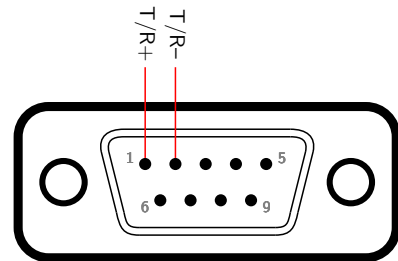
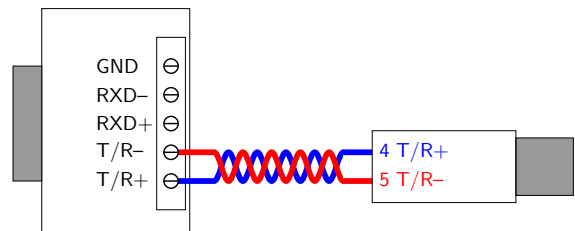

Figure 2.3: DB-9 female connector (solder side).2
Figure 2.4: DB-9 adaptor to DIN-6 wiring.2
1. Solder the pins on a female DB-9 connector as shown in Figure 2.3. Note that the pin numbers shown in the diagram are for the solder side of the connector. Alternatively, use a DB-9 adaptor with screw terminals, as shown in Figure 2.4.